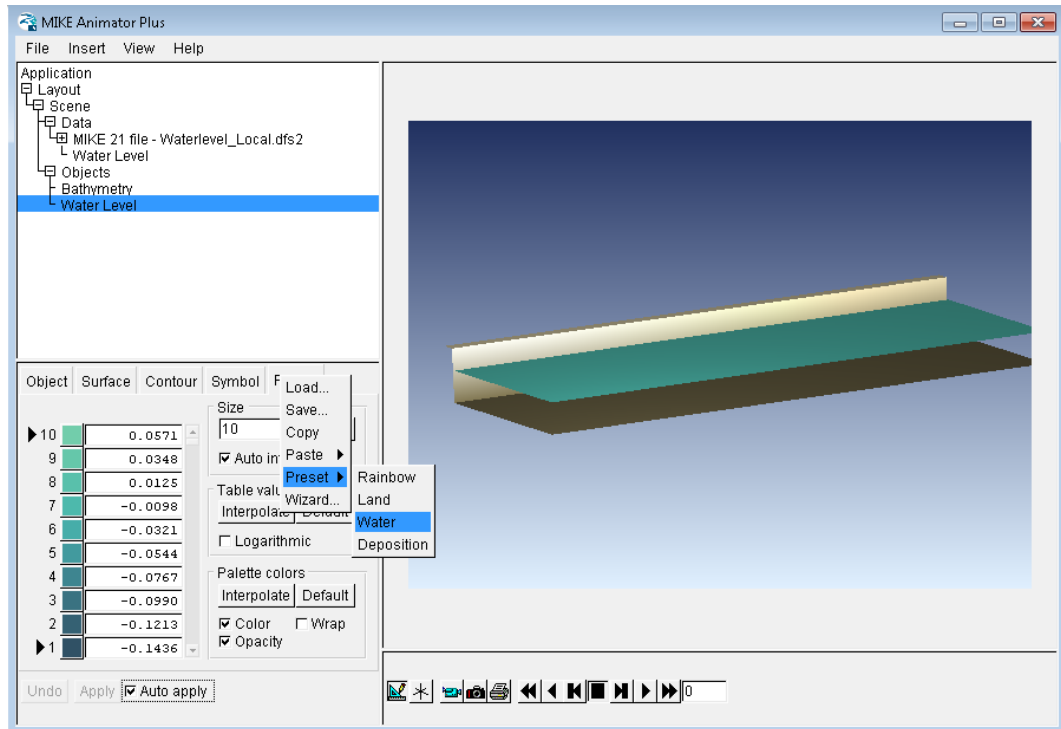

Figure 3.32 Adding data to existing scene
8. From the drop-down menu select 'Preset' and 'Water', see Figure 3.32.